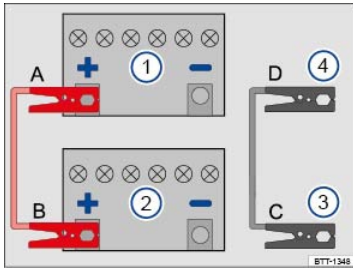

Fig. 206 Diagram for attaching the jumper cables: Dead battery ① and booster battery ②.
Key to ⇒ Fig. 206 , ⇒ Fig. 207 :
The procedure for attaching and for removing the jumper cables is described below. Perform each of the following steps only in the order described, which follow the letters shown in the illustrations ⇒ Fig. 206 or ⇒ Fig. 207 A – B – C – D.
- ③ Attach one end of the *red* jumper cable to the **positive terminal** ⇒ Fig. 206 ⊕ of the dead battery ① ⇒ ▲.
- ④ Attach the other end of the *red* jumper cable **B** to the **positive battery terminal** ⊕ on the good battery (booster battery): ②.
- ⑤ Attach one end of the *black* jumper cable **C** to the **negative jump-start terminal** ③ of the vehicle **providing** assistance, or if that is not available, to a bare metal part of the vehicle **providing** assistance. This part should be connected directly to the engine block.
- ⑥ Attach the other end of the *black* jumper cable **D** to the **negative jump-start terminal** ④ of the vehicle **receiving** assistance, or if that is not available, to a bare metal part of the vehicle **receiving** assistance. This part should be connected directly to the engine block. Attach the clamp to a point that is as far away as possible from the dead battery ⇒ ▲.
- ⑦ Route the jumper cables so that they cannot get caught in any moving parts in the engine compartment of either vehicle.